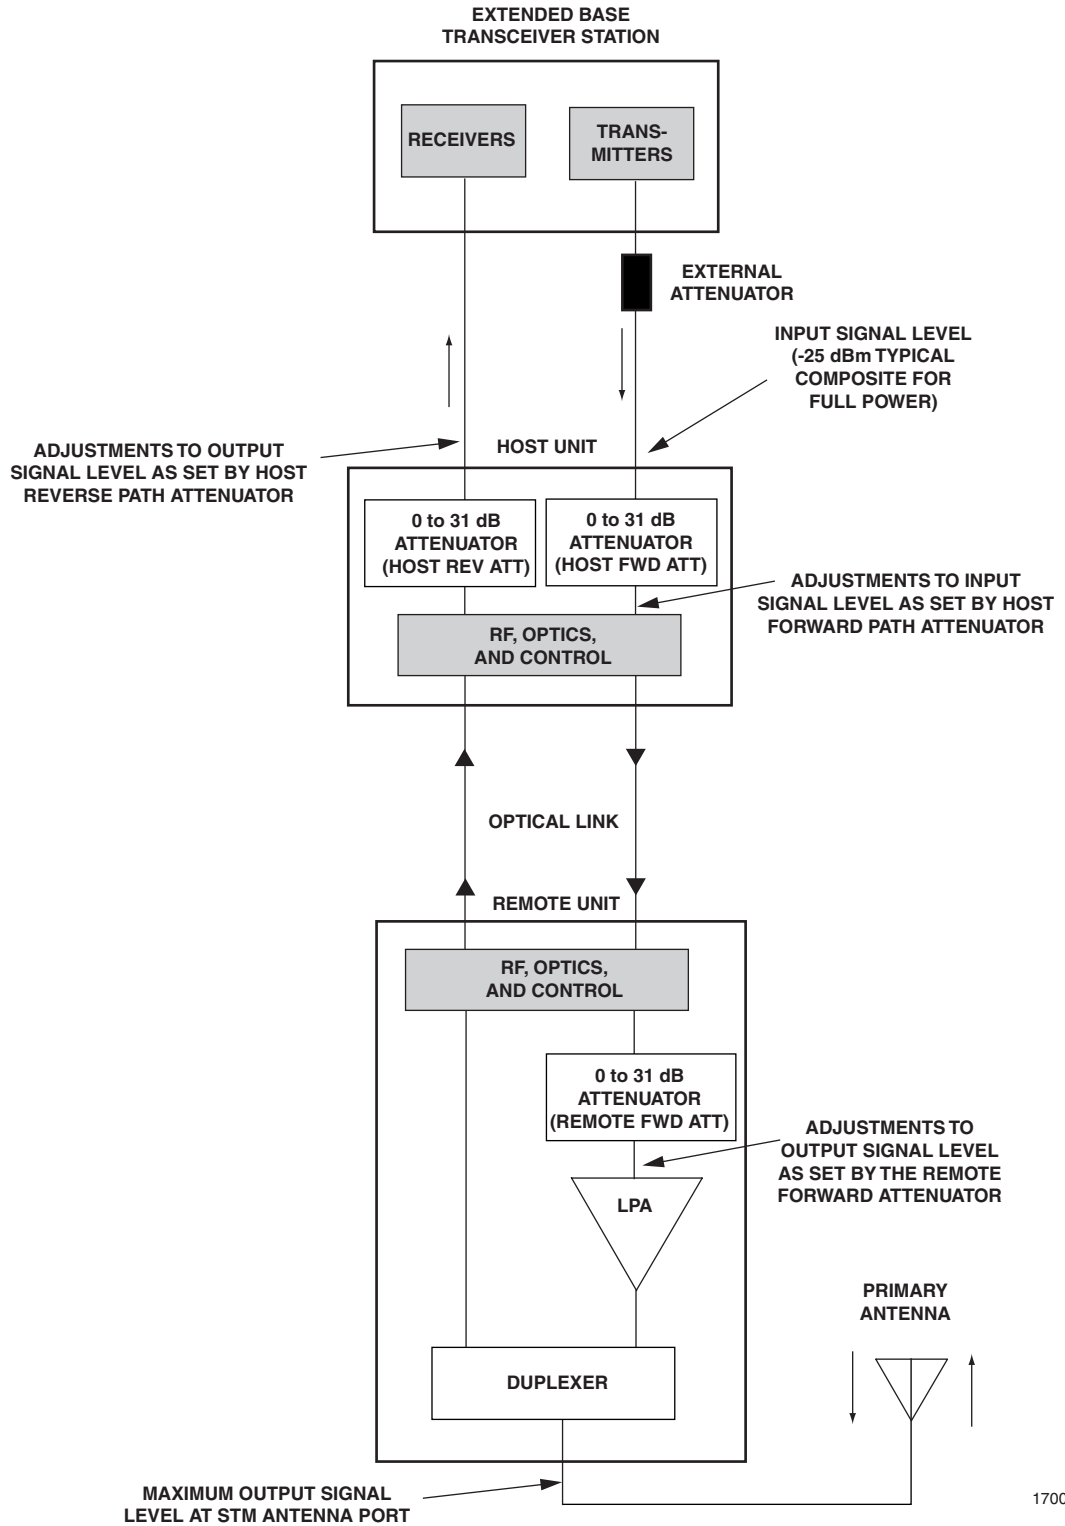

Figure 4-5. Signal Levels, Test Points, and Adjustments
1. Connect a spectrum analyzer or power meter to the forward path output port of the BTS. The required signal levels and test points are shown in Figure 4-5.